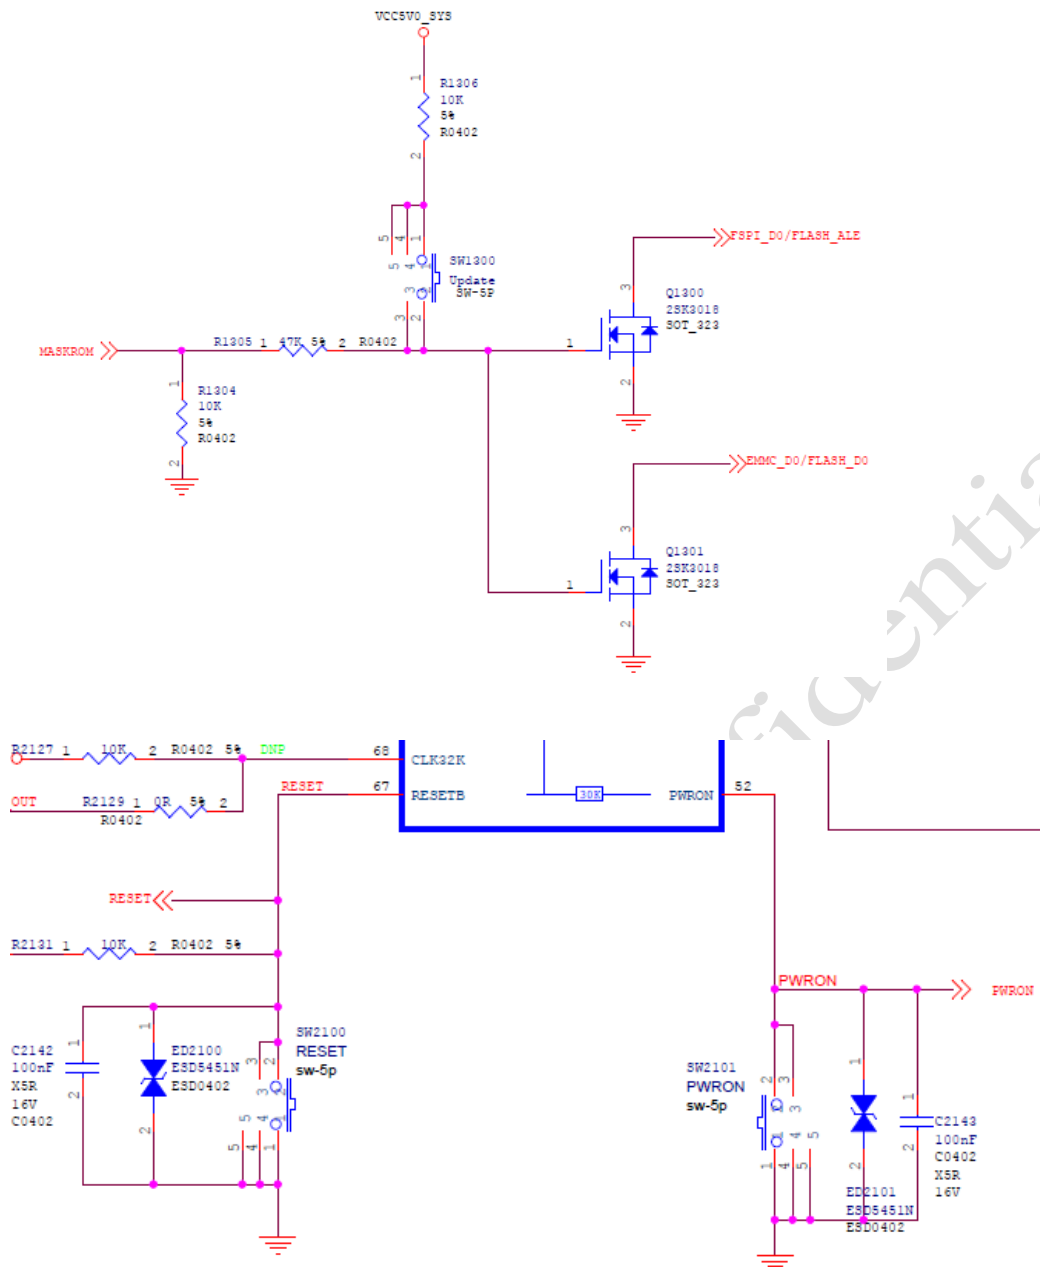

Figure 3-5 EVB button design
2. ADC power supply is provided by ADC_AVDD_1V8, and the corresponding key value can be calculated according to the resistance parameter in Figure 3-5.